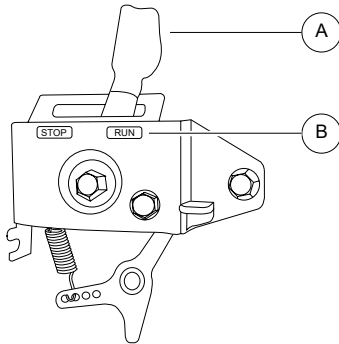

Figure 3-2.Engine control level
2. See **Figure 3-2**, Move the engine control level (A, **Figure 3-2**) to " RUN " Position (B, **Figure 3-2**).